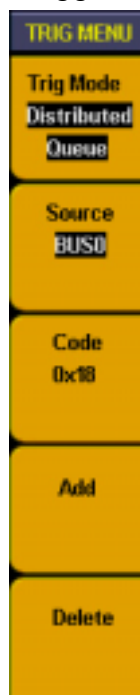

Fig 70 : Distributed queue trigger menu
5. **Distributed queue trigger**: make BUS as trigger source and dis-continuous setting data in BUS as trigger condition to generate trigger and also can set 8 data at the same time. Distributed queue trigger menu refer as Fig.70